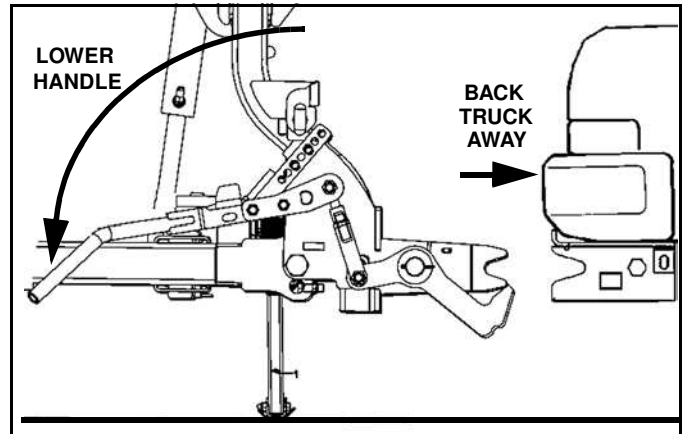

Figure 1-64
4. Pull safety pin on engagement handle to release and lower handle to disengage plow from truck. (See Figure 1-64).